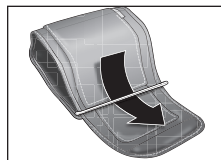
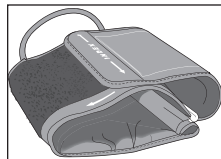

Fig. 1
Fig. 2
2. Keeping the words on the inside of the cuff, thread the end of the cuff through the metal bar, Fig 1. The end of the cuff should be able to fold over onto itself for securing via the hook and loop closure, Fig 2.